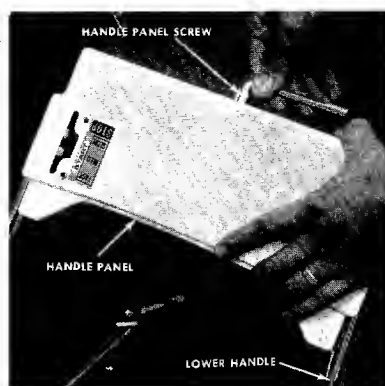

FIGURE 3. HANDLE PANEL ASSEMBLY
4. Place the handle panel over the lower handle and fasten with the handle panel screw using a 5/16" wrench. See figure 3.